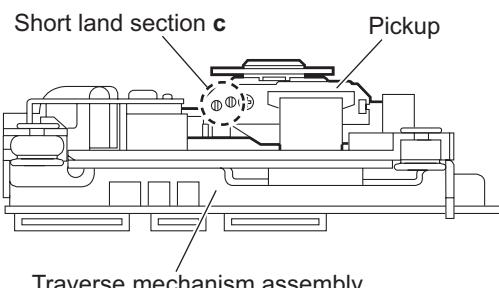

Fig.5
(See Figs.5 and 6)
- From the side of the traverse mechanism assembly, solder the short land sections **c** on the pickup. (See Fig.5.)
- Solder the short land sections **c** on the pickup before disconnecting the card wire from the connector CN101 on the DVD servo board. If the card wire is disconnected without attaching solder, the pickup may be destroyed by static electricity. (See Figs.5 and 6.)
- When attaching the DVD servo board, be sure to remove solders from the short land sections **c** after connecting the card wire to the connector CN101 on the DVD servo board. (See Figs.5 and 6.)
(See Figs.5,7 to 9)
- Solder the short land sections **c** on the pickup before disconnecting the card wire from the connector on the pickup. If the card wire is disconnected without attaching solder, the pickup may be destroyed by static electricity. (See Figs.5 and 7.)
- When attaching the pickup, be sure to remove solders from the short land sections **c** after connecting the card wire to the connector on the pickup. (See Figs.5 and 7.)
(See Figs.5,7 to 10)
- (4) Remove solders from the short land sections **c** after connecting the card wire to the connector on the pickup. (See Figs.5 and 7.)